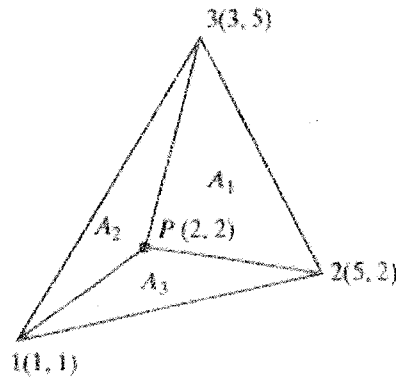

Fig. 2
- Q5. For the triangle shown in Fig. 2, the interior point P at (2, 2) divides it into three areas,  $A_1$ ,  $A_2$ , and  $A_3$ , as shown. Determine  $A_1/A$ ,  $A_2/A$ , and  $A_3/A$ .